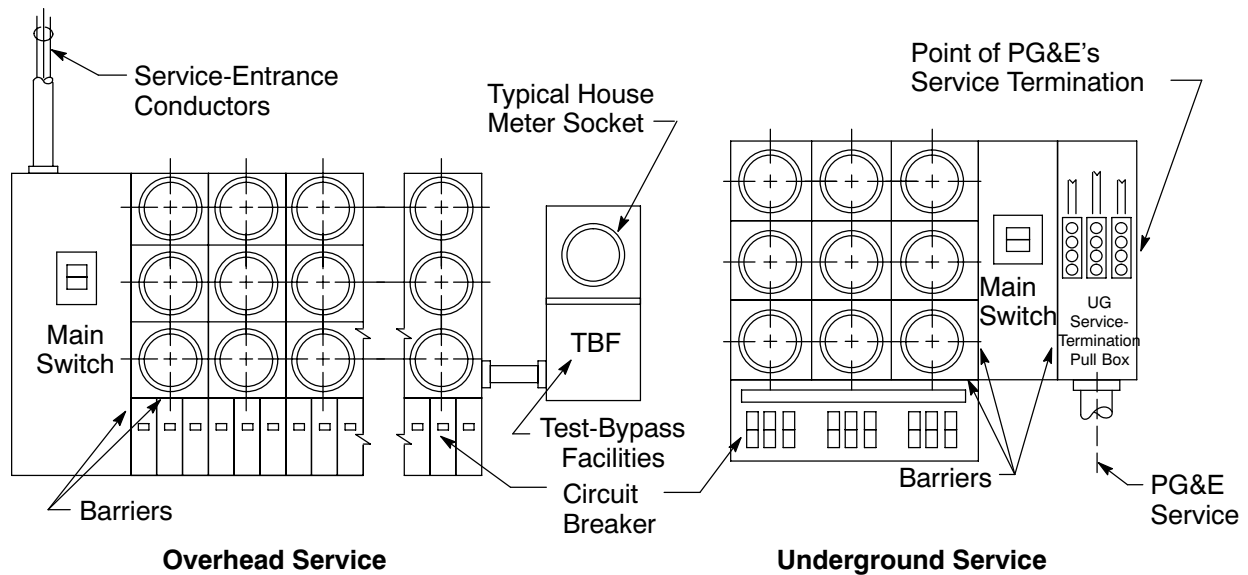
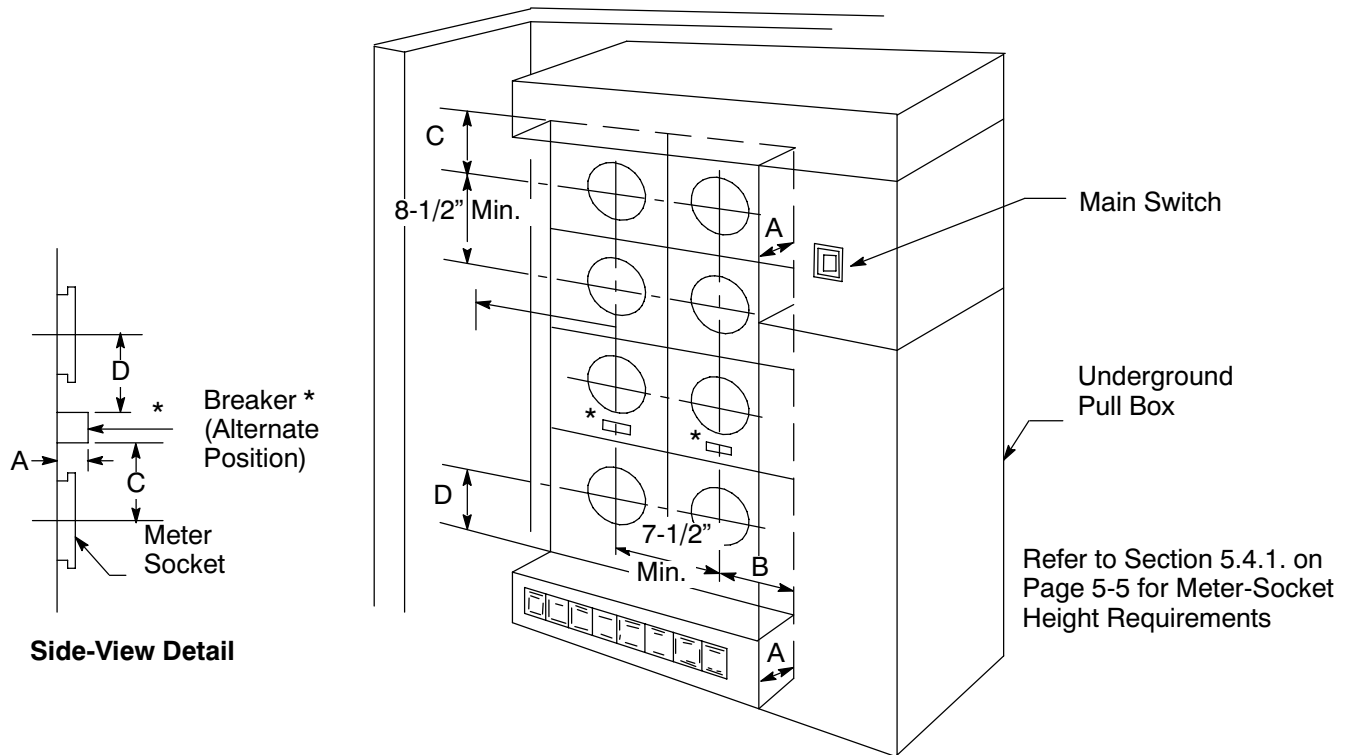

Figure 6-12
Figure 6-13
Examples of PG&E-approved, combination, multimeter installations are illustrated in Figure 6-12, “Typical, Manufactured, Combination, Multimeter Installation: Seven Meters or More,” on Page 6-15, and Figure 6-13, “Clearances for a Typical, Manufactured, Combination, Multimeter Installation,” on Page 6-16.
4. Ensure that the panel's design and construction meets the clearance requirements provided in Figure 6-13 and in Table 6-2, "Dimension Specifications for Multimeter Installations," on Page 6-16.
5. Increase Dimension B, shown in Figure 6-13 on Page 6-16, by the amount that the main switch door, including the operating handle, reduces the clearance when opened 90°.